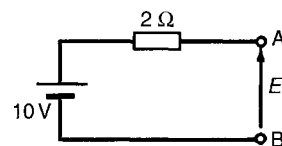

Figure 13.29
- (i) The open-circuit voltage,  $E$ , across terminals AB in Fig. 13.29 is equal to 10 V, since no current flows through the 2 Ω resistor and hence no voltage drop occurs.